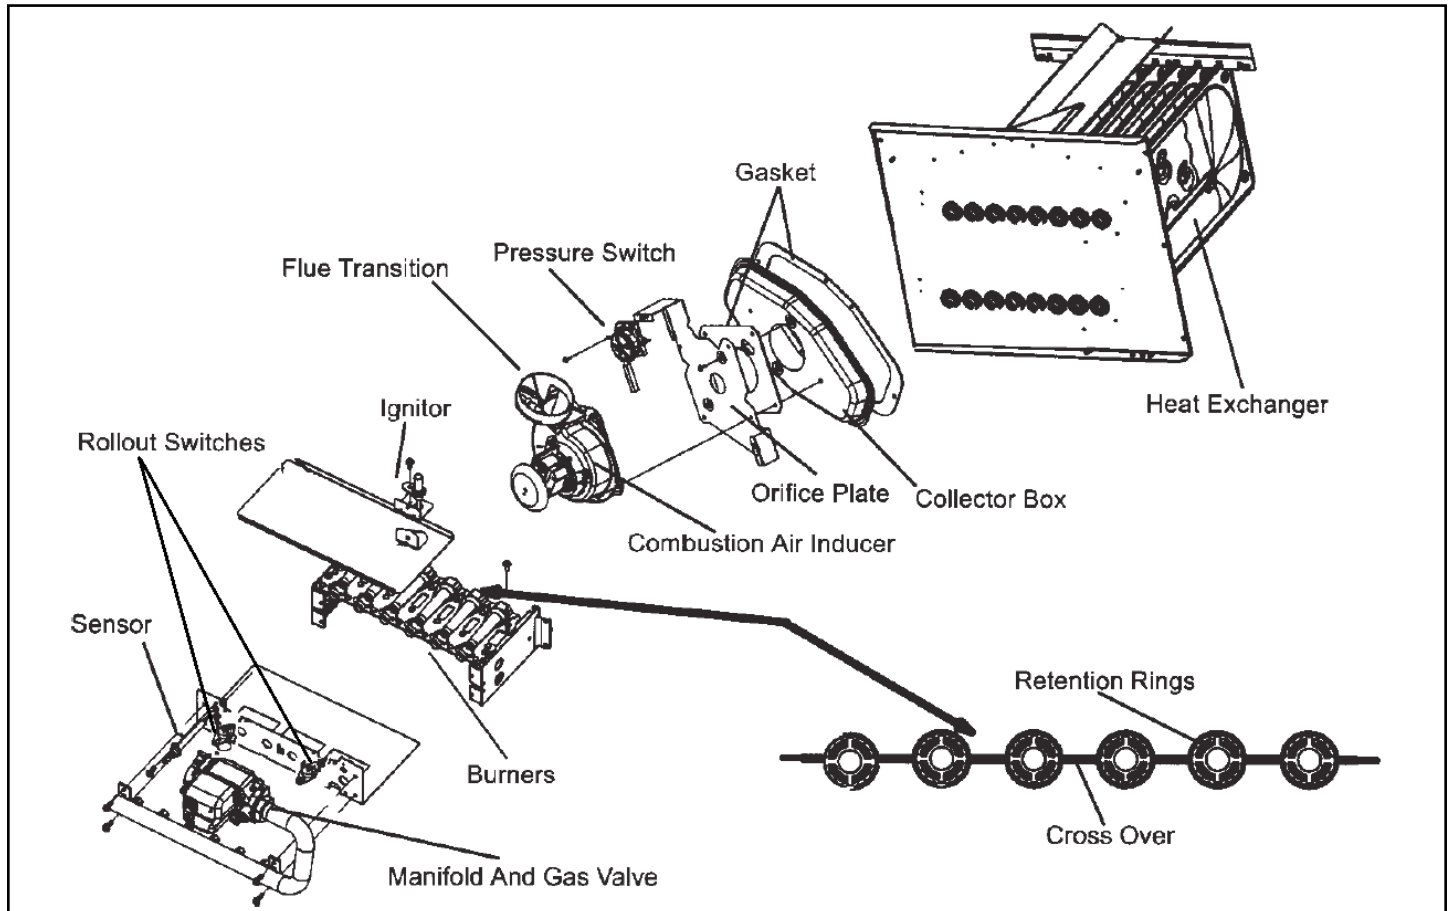

Figure 30. Burner, Combustion Air Inducer Assembly & Heat Exchanger Removal
12. To clean burners, run a vacuum cleaner with a soft brush attachment over the face of burners. Visually inspect inside the burners and crossovers for any blockage caused by foreign matter. Remove any blockage. Figure 30 shows burner detail.